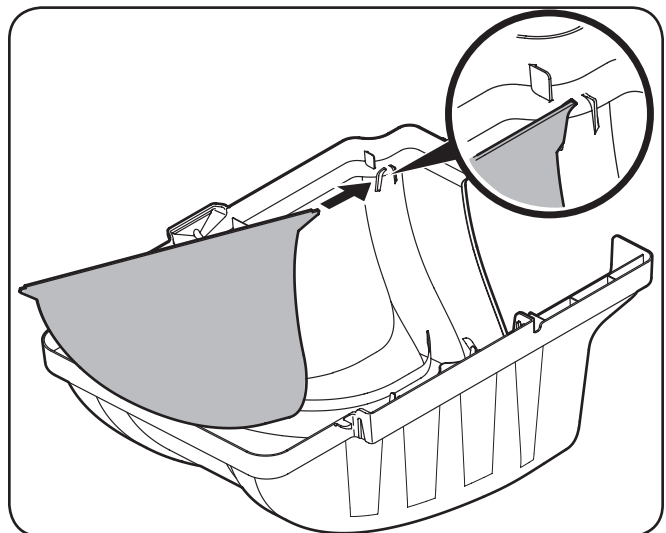
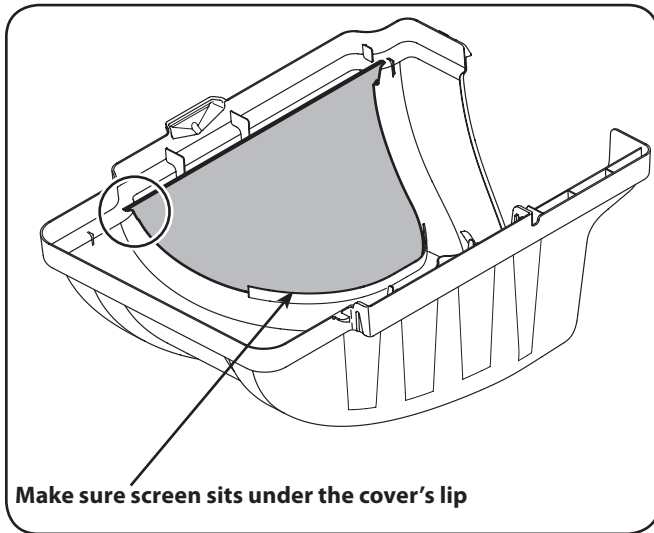

Figure 4-7
Figure 4-8
- If not already installed by the factory,** install the bagger screen into the bagger cover by first inserting one end into the corresponding cutout mounting hole, as in Figure 4-7. Make sure to feed the screen under the lip, as in Figure 4-8.
- Clip in the other side of the screen by flexing the screen and pushing it down into the other corresponding cutout hole. See Figure 4-8.